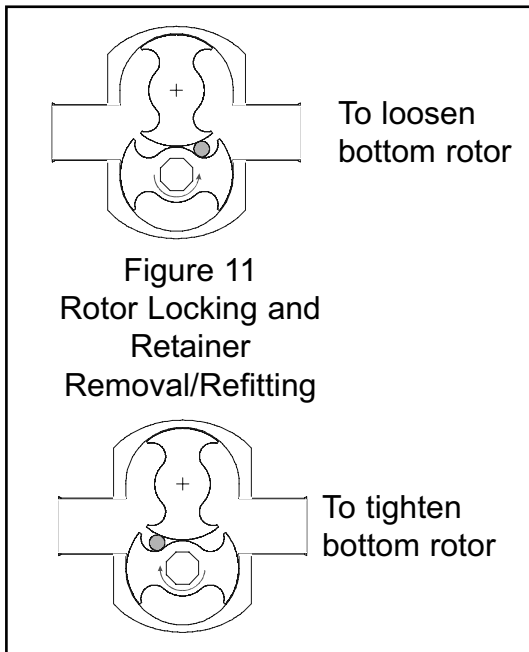

Figure 11
- a) Hy~Line **only:** The rotors are secured by special slotted screws (59) sealed by O-rings (58). Lock the pump rotors with a soft spacer - a plastic block (180) is provided for this purpose. (see also figure 11). Use only the special tool (181) supplied to loosen and retighten. Both screws have a right-hand thread.
- a) **LH72, 74, 76 & Tanker Pumps:** Lock the pump rotors with a soft spacer - A plastic block (180) is provided for this purpose (see also Fig.11). Use only the special tool (181) supplied to loosen and retighten the hygienic cap (59A) both screws have a right-hand thread. Remove the three bolts holding the rotors onto the shaft using an allen key. Withdraw rotors carefully to avoid seal damage by contact between shaft ends and seal faces which are located on the back of the rotors.
- a) Ultima **only:** The rotors in Ultima pumps are held in place with tie-rods (26 and 27) which have threaded ends and pass through the hollow shafts (24 and 25). The tie rods are secured with nuts (87) and washers (88). To remove rotors proceed as follows:
Lock the pump rotors with a soft spacer - a plastic block (180) is provided for this purpose. See also figure 11. Loosen and remove tie-rod nuts (87) and washers (88).